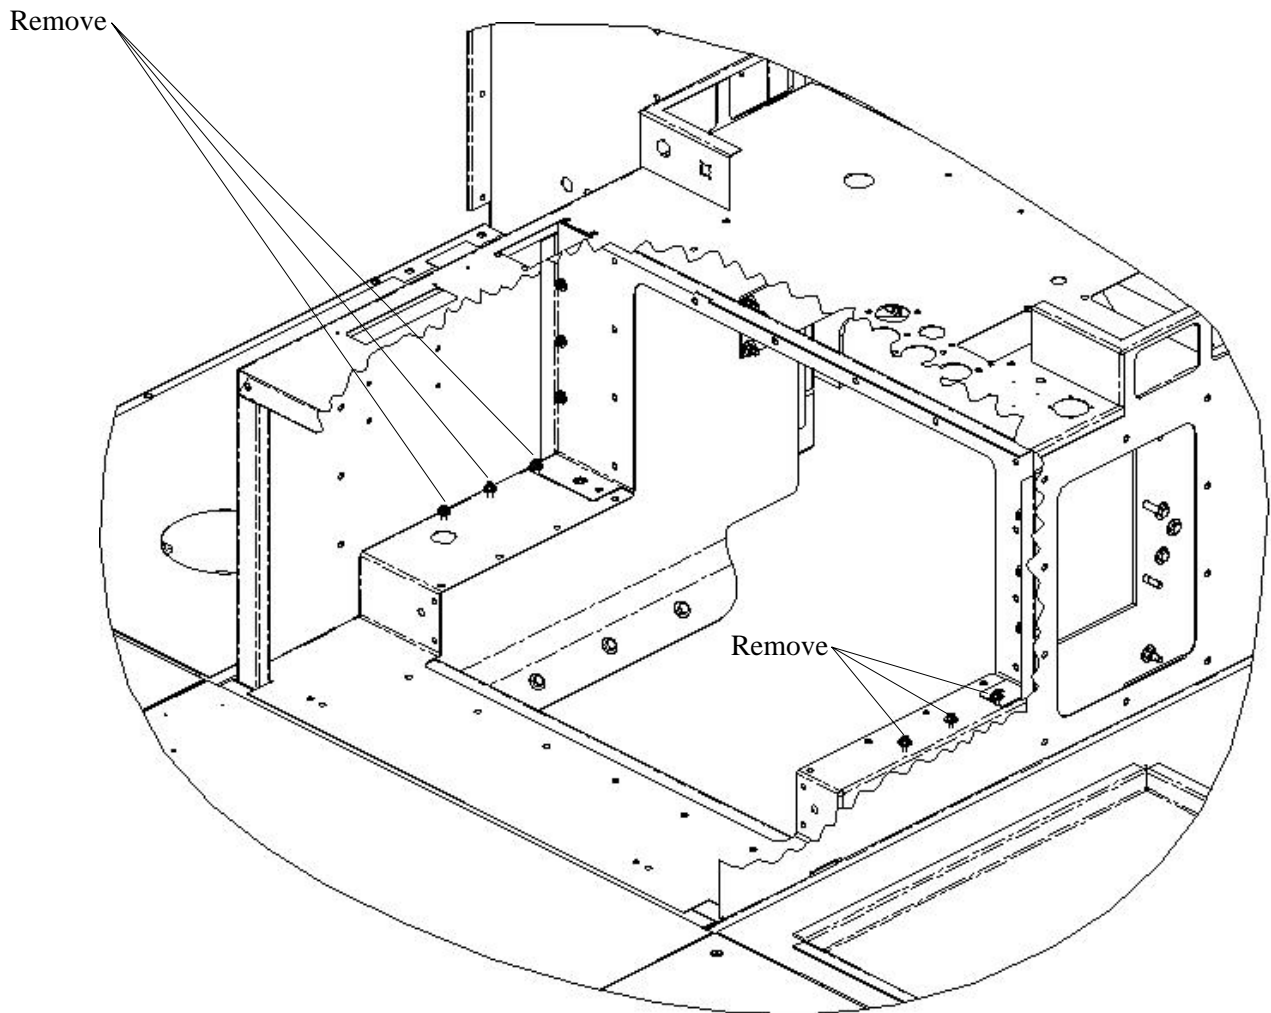

Figure 3-69. Doghouse Preparation.
1. Prepare doghouse as follows (see Figure 3-69):